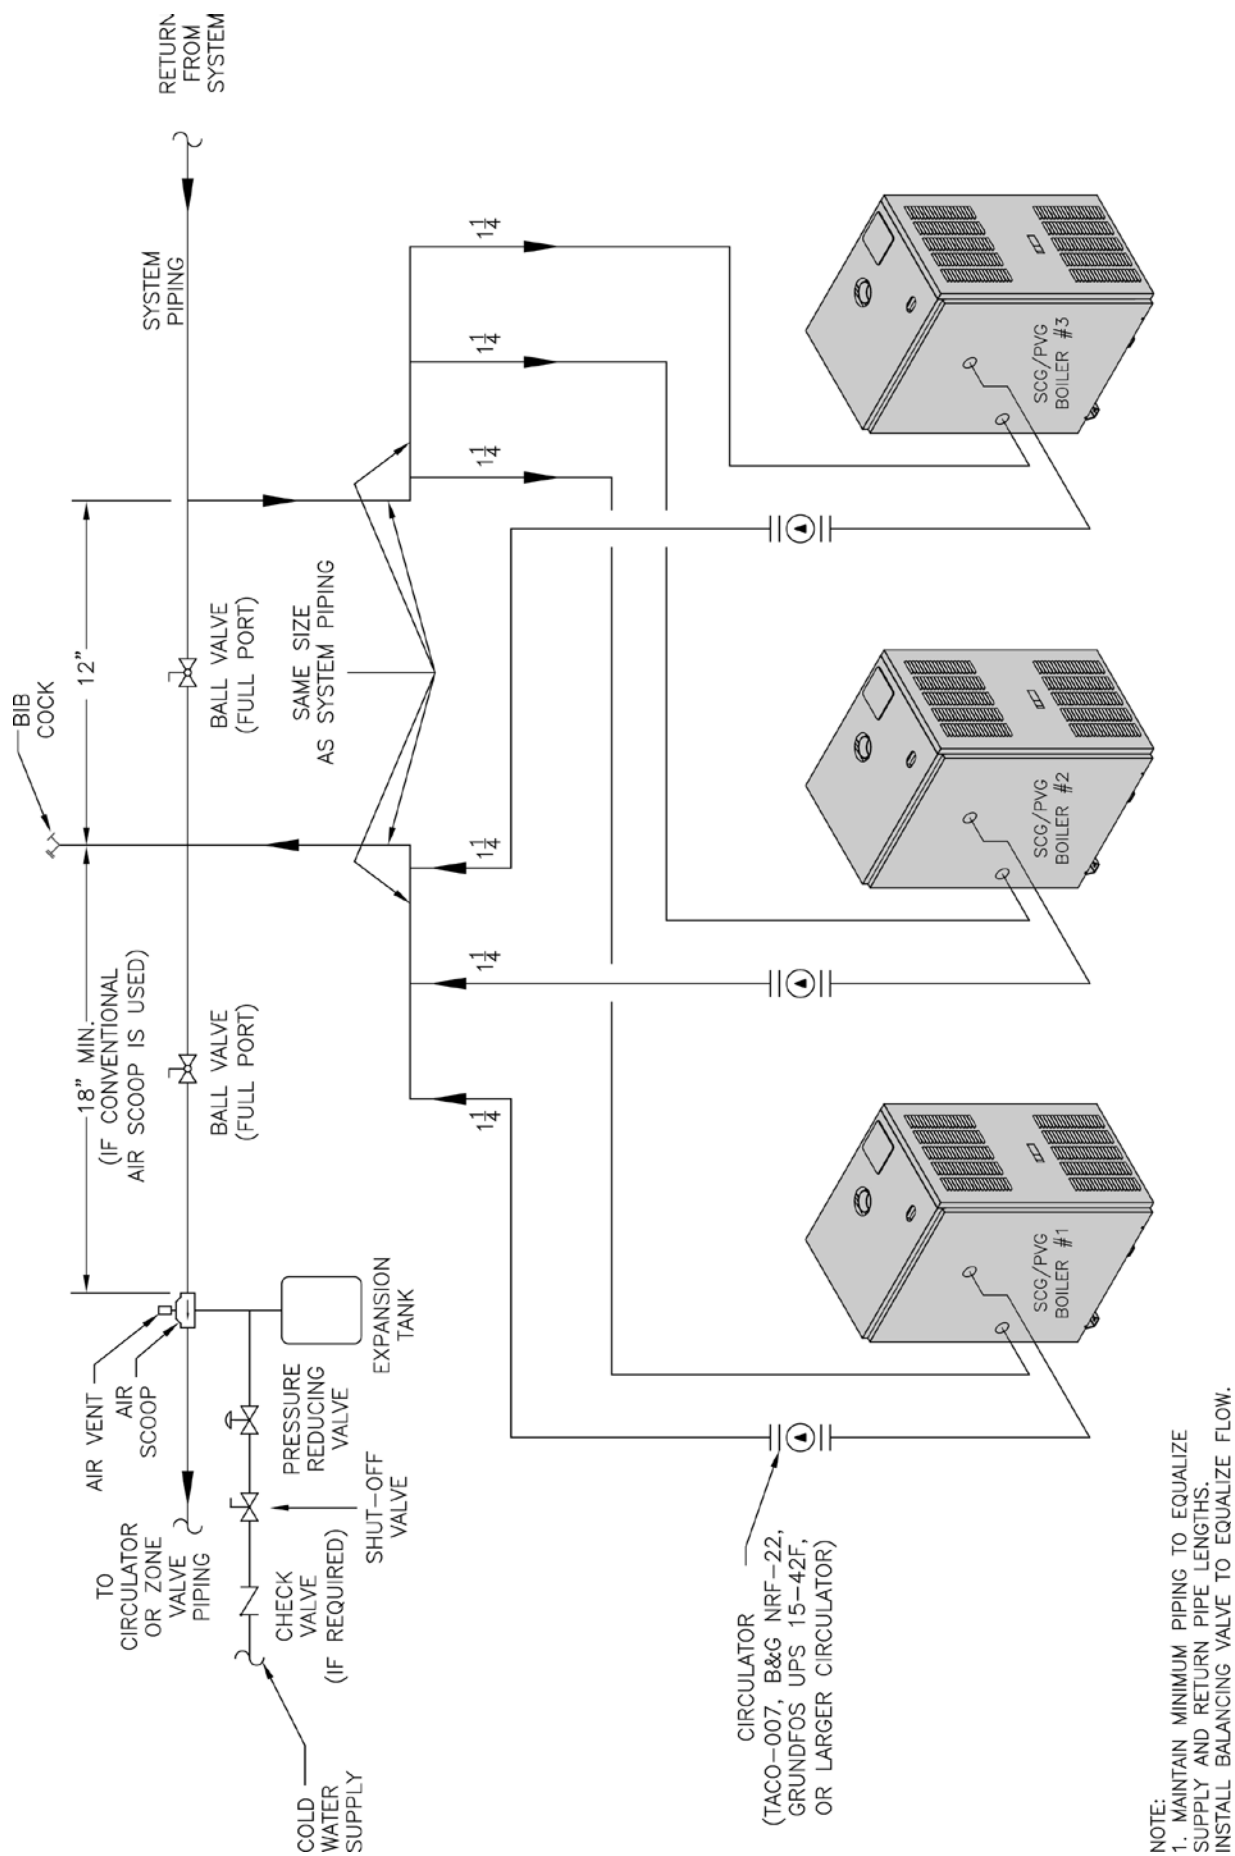

Figure 21: Modular Boiler Piping
4. Multiple vertical vent pipes may be piped through a common conduit or chase so that one roof penetration may be made. Each vent termination must be one (1) foot from other terminations.
D. Water Piping (See Table 9 and Figure 21)